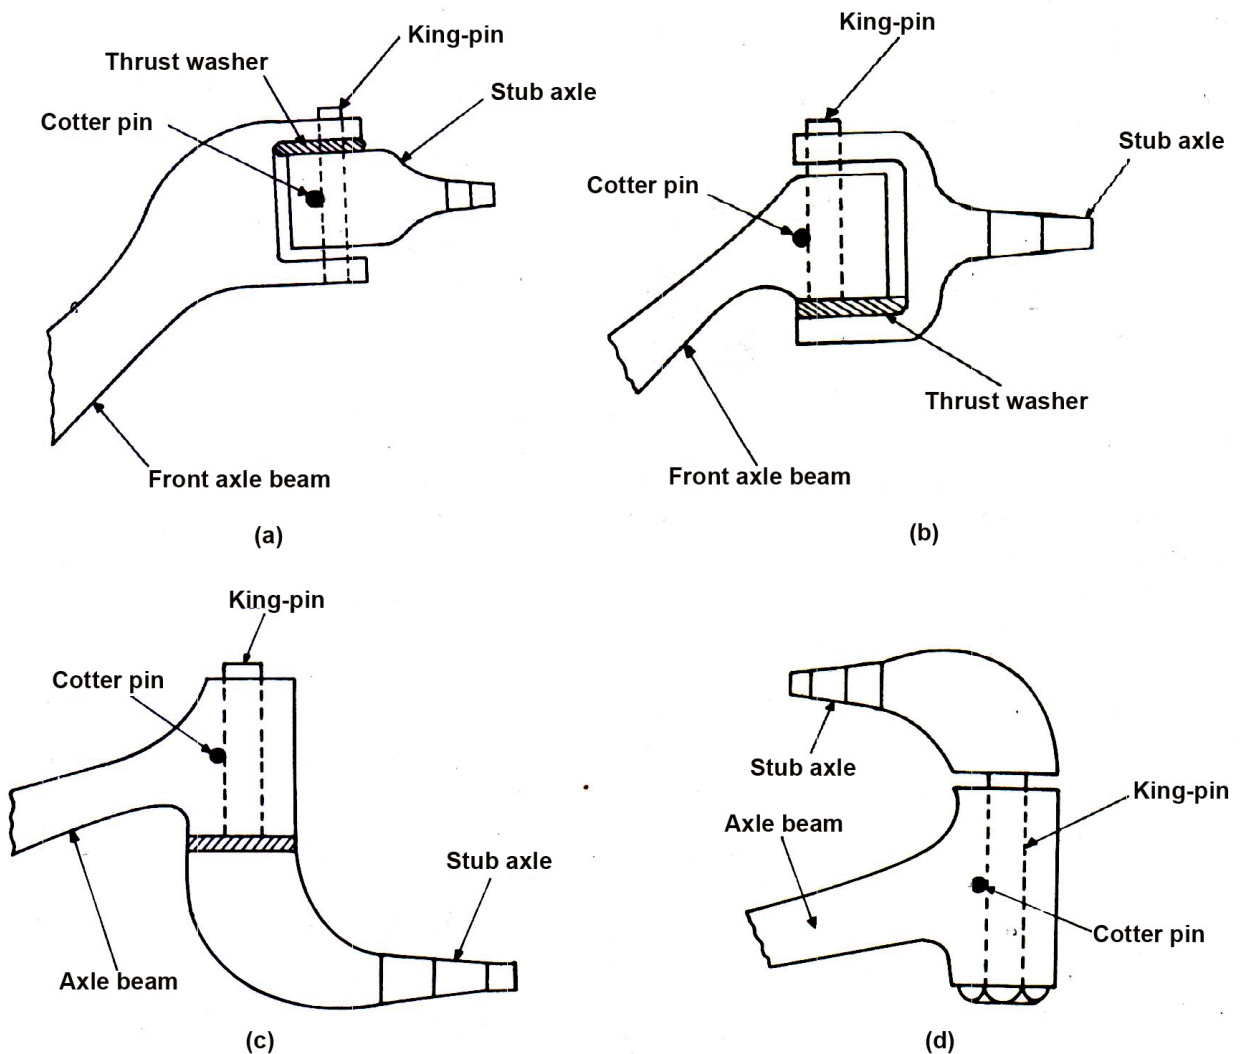

Fig. 4.1.5: Different Types of Stub Axles
- **Elliot Stub Axle:** In this construction, the axle beam end is formed into a fork to accommodate the pivot pin or kingpin of the stub axle and the bearings. [Fig. 4.1.5(a)]
- **Reverse Elliot Stub Axle:** In this type the Kingpin is supported in the forked end of the stub axle and the plain end of the axle beam [Fig. 4.1.5(b)]. This type stub axles are commonly used with front axles.
- **Lemoine Stub Axle:** In this type, the axis of the stub axle is above the axle beam [Fig.4.1.5(c)].
- **Reverse Lemoine Stub Axle:** In this type the stub axle is below the axle beam [Fig.4.1.5(d)].